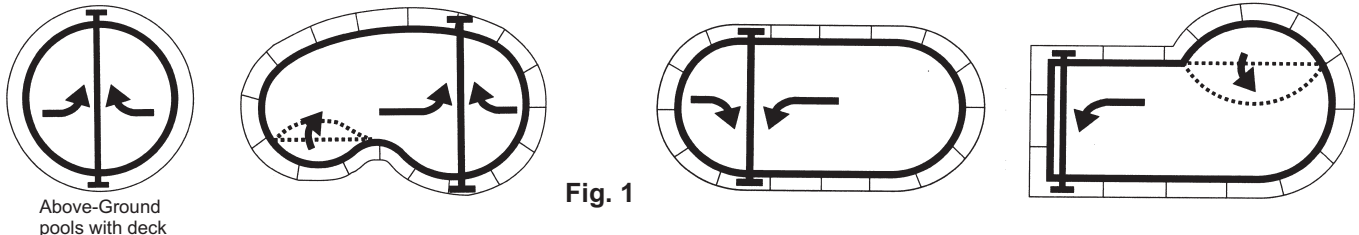

Fig. 1
A. Determine the best location for the reel system. *The widest point of the pool is the preferred locations (see Fig. 1 below).*